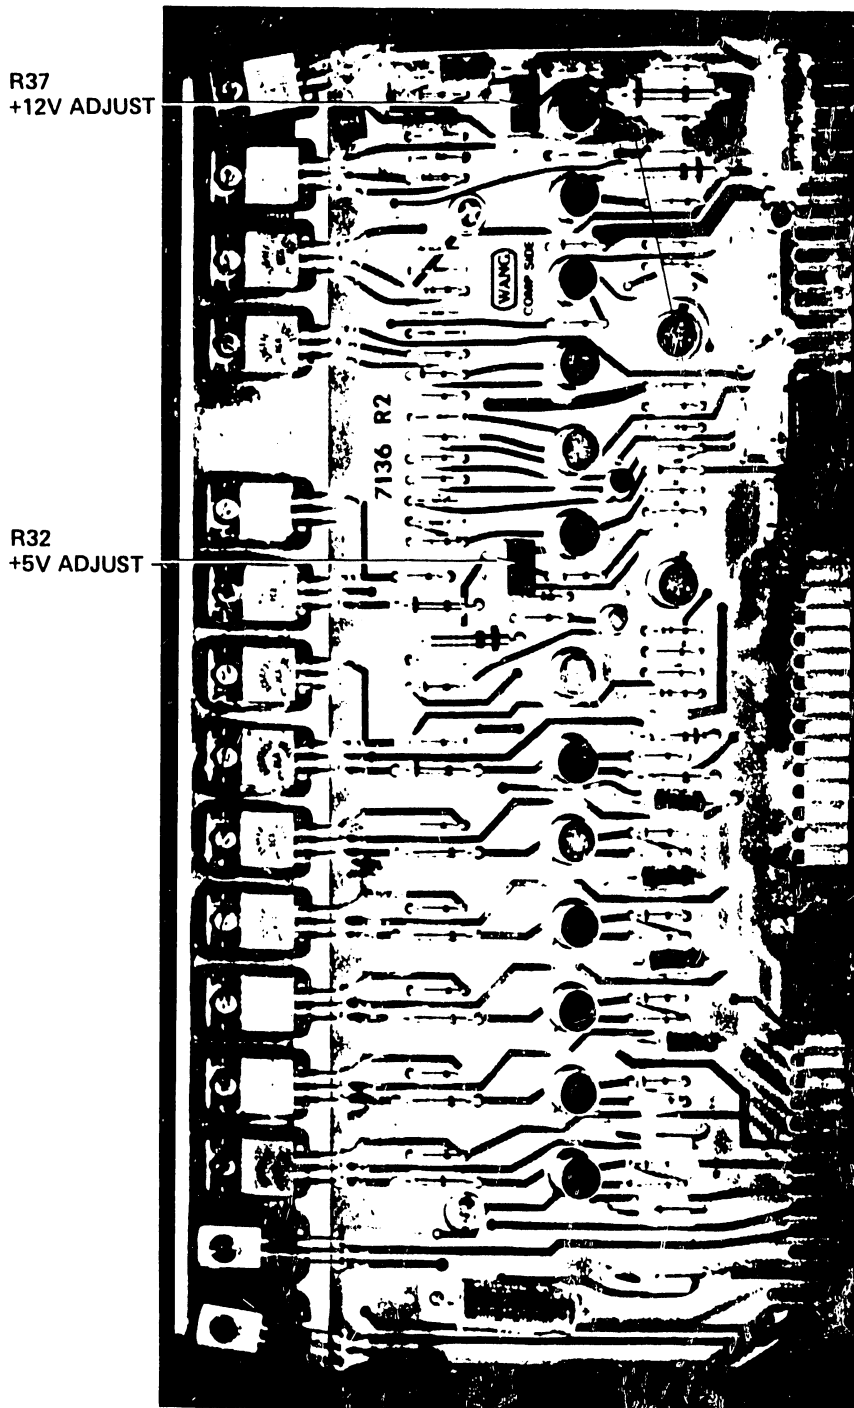

Figure 5-3. 7136 PCB – Voltage Adjustments
2. Check for $+5 \pm .1V$ VRSW at connector pin 12_1 . Adjust this voltage to the correct level by R-32. See Figures 5-3 and 5-4.
3. Check for $+12$ to $+12.5$ VRSW at connector pins A_1 and 1_1 . Adjust to the correct level by R-37. See Figures 5-3 and 5-4.